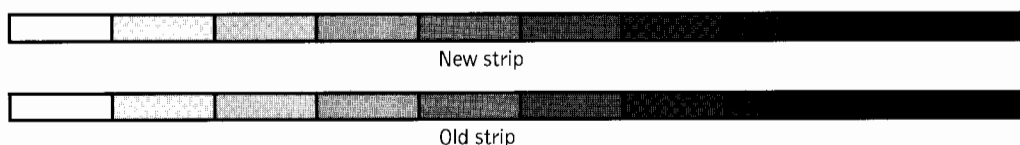

Fig 4-9. Developer activity test strips. Comparison of old against new
- Compare the test strip with the control strip (see Fig 4-9).